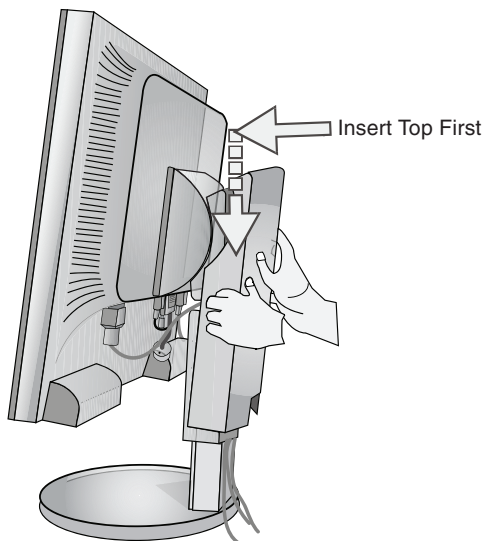
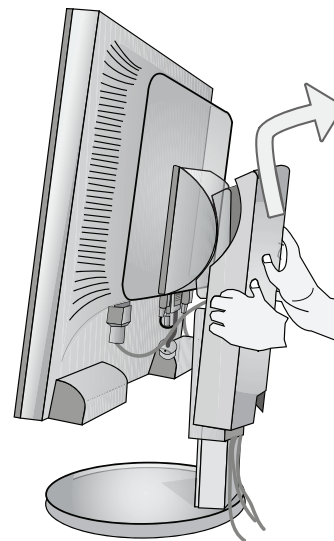

**Figure C.2**
**Figure C.3**
5. To keep the cables neatly organized, place them into the cable management system that is built into the stand. Place the Power cord and DVI cables into the specific hooks, as indicated in **Figure C.2/Figure C.3**. Place the D-Sub and the USB cables into the specific hooks, as indicated in **Figure C.2/Figure C.3**.
6. Make sure all cables are resting flat against the stand (**Figure C.2/Figure C.3**). Please check Tilt, Rise and Lower monitor screen and screen rotation when you manage cables.